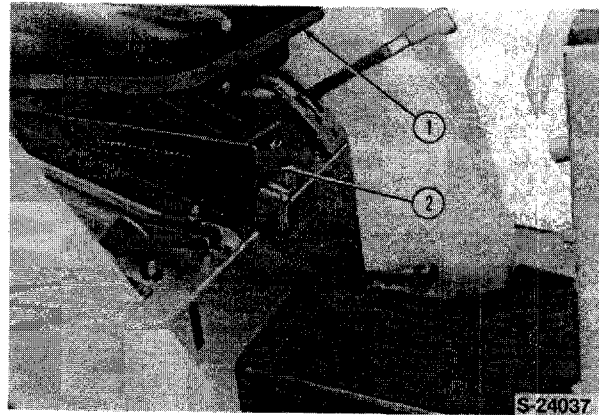

Figure 34
4. Remove the seat and track assembly, Figure 34.